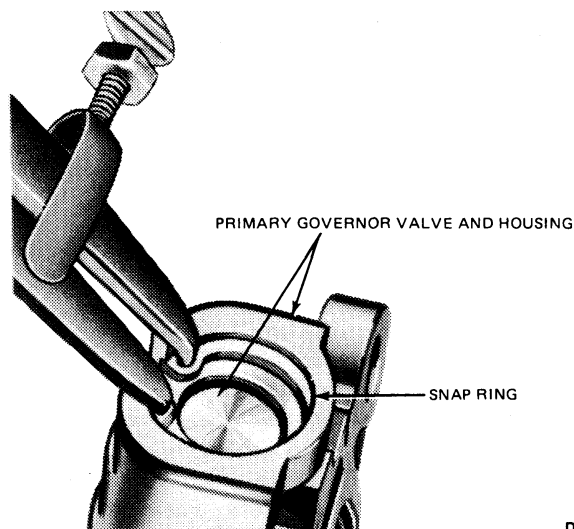

FIG. 54 Removing or Installing Governor Valve Snap Ring
3. Remove the primary governor valve snap ring (Fig. 54). Remove the washer, spring, and primary governor valve from the housing.